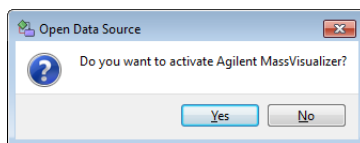

Figure 71 Open Data Source dialog box
- Click **Yes** in the new **Open Data Source** dialog box to activate Agilent MassVisualizer (Figure 71). You can choose to activate the Agilent MassVisualizer plug-in later; however, MassVisualizer must be activated at this time in this workflow.
Note: You must enable the **Agilent MassVisualizer** plug-in to enable visualization of your isotopologue results from Profinder. If the **Agilent MassVisualizer** plug-in is not enabled when you open a PFA file Omix Premium will automatically prompt you (Figure 71).